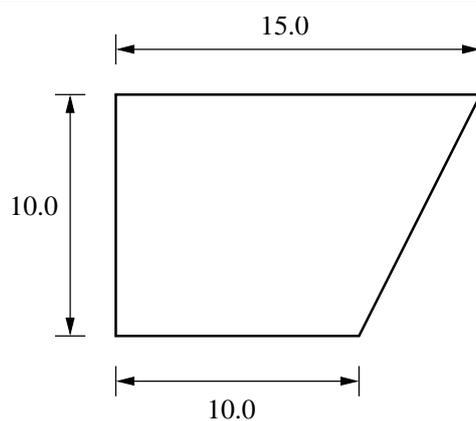

Figure 1:
3. Figure 1 shows the geometry of a plate to be analysed. The boundaries of the plate are simply supported and the plate thickness is $t = 0.2$. The Young's modulus of the material is $E = 35000$ and the Poisson's ratio is $\nu = 0.3$. The plate is loaded by uniform pressure loading of $p = 0.003$. Study the convergence of the maximal displacements for fully and selectively reduced integrated finite elements. The meshes to be used should have 4×4 , 8×8 , 16×16 and 32×32 elements.
6. The dynamics of the plate in Fig. 1 due to sudden uniform loading is to be studied. The mass density of the material is $\rho = 2000$. Apply a sudden uniform loading of $p = 0.003$ and plot the evolution of the maximal displacements over time.